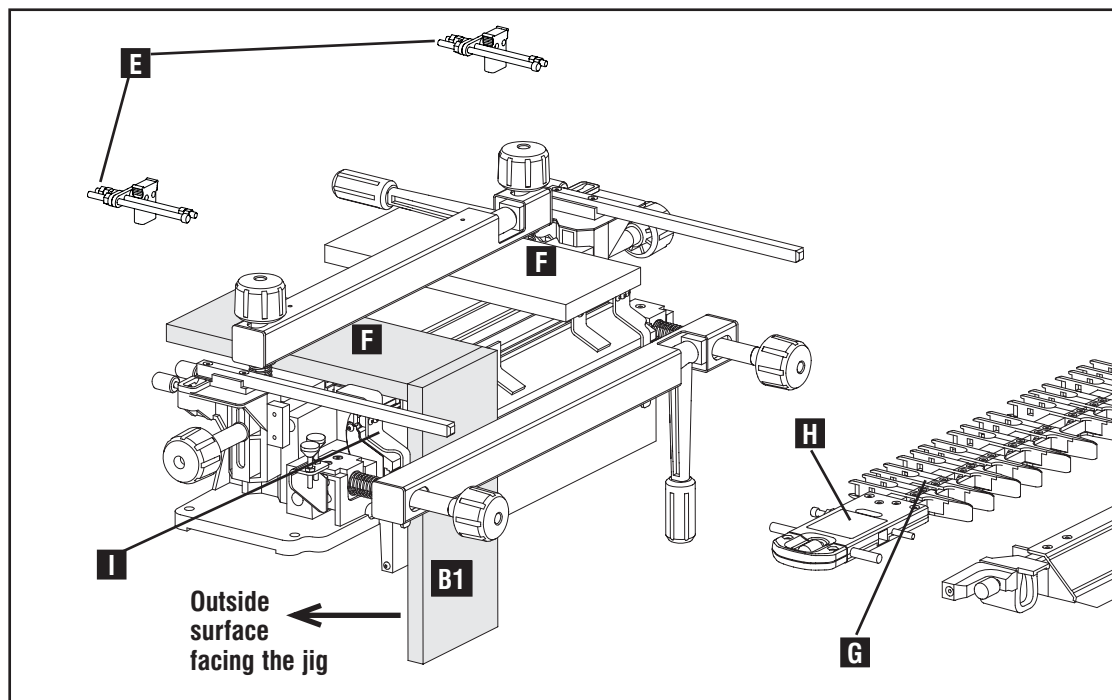

Fig. I6
1. Mount horizontal scrap boards (F) Fig. I6 and template (G). Be sure the "B PINS" label (H) is to the left as you face the jig.
2. Vertically mount the first board to be cut (B1) Fig. I6 with the "outside surface" facing the jig. The board should be flush with the left edge guide (I) and tight against the underside of the template (G).
3. To reduce tearout, be sure the horizontal scrap (F) is pulled forward flush with the back of first board B1.